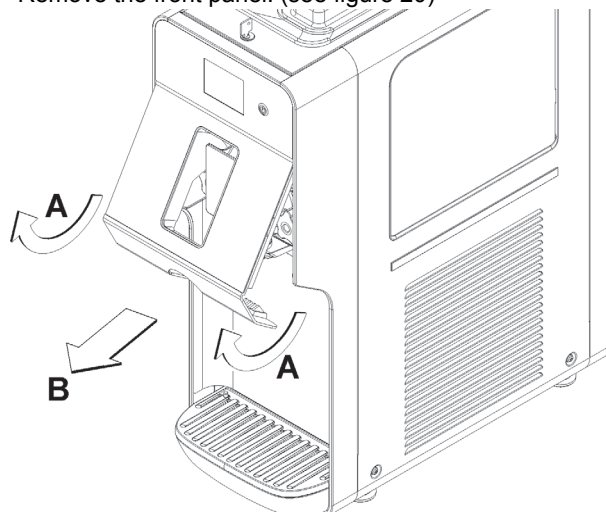

figure 20
4 Remove the front panel. (see figure 20)
- 3 Assemble the spigot assembly by first inserting the spigot piston into the front door. Then install the handle onto the door and secure it with the pin. Refer to Figure 20.